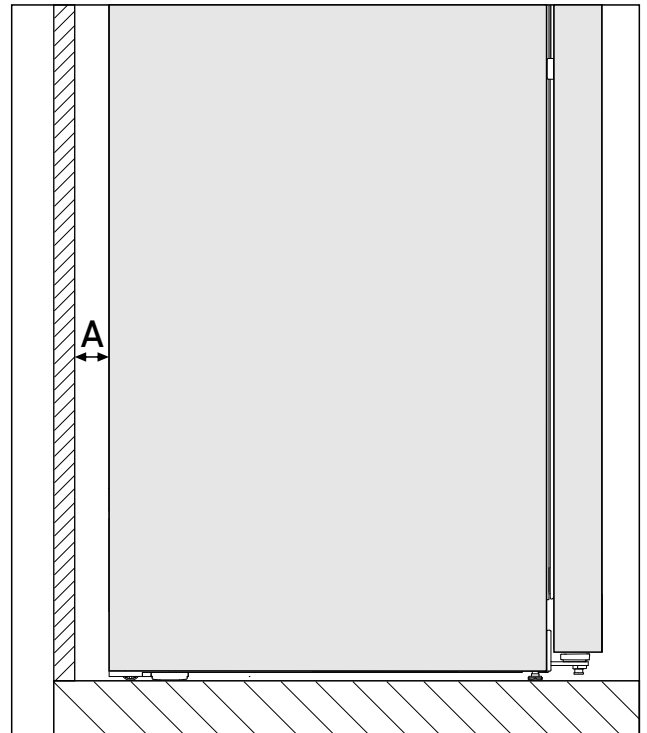

Fig. 2 \*
The energy consumption has been determined with a gap of Fig. 2 (A) between the rear of the appliance and the wall. If the wall gap is less than Fig. 2 (A), this does not affect the appliance's operability but the energy consumption does increase slightly at a smaller wall gap.